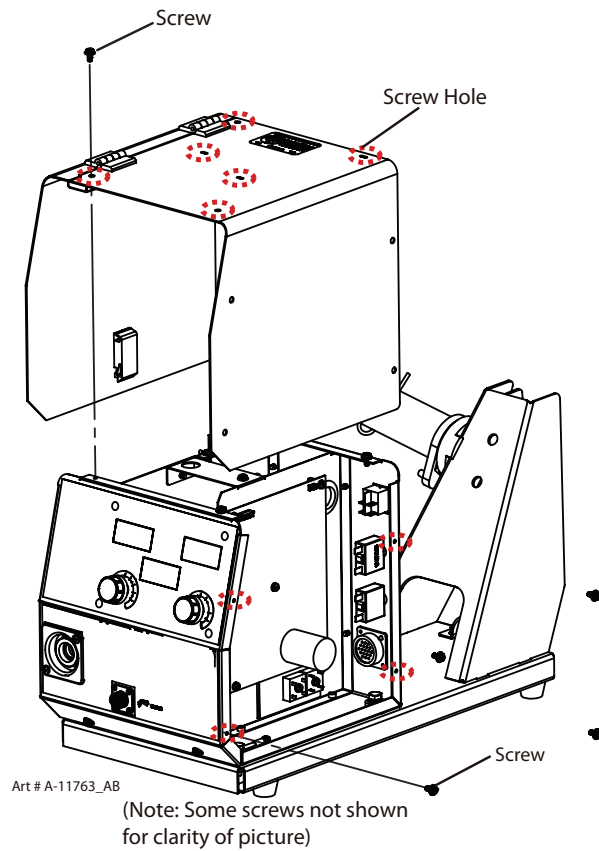

Figure 3-13 Removing the Cover
8. Replace the Cover Panel as outlined in Figures 3-13 and 3-12.